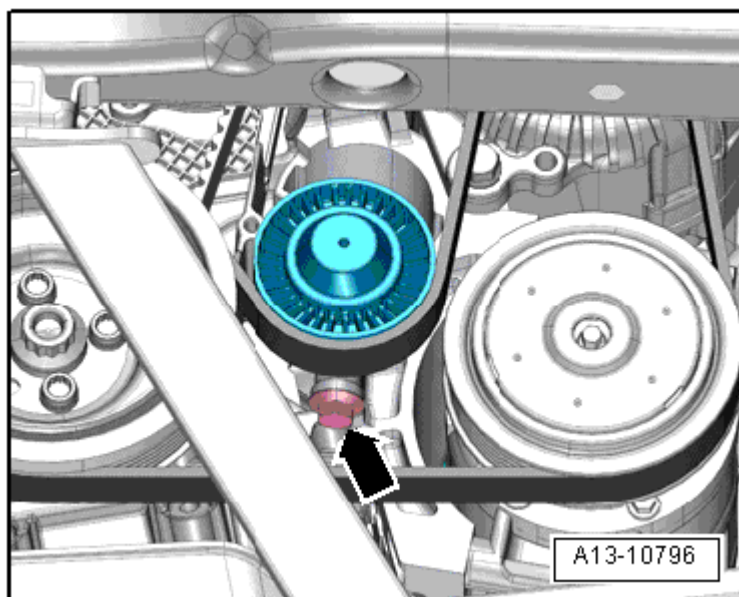

Fig. 6: Identifying Ribbed Belt Tensioning Roller Bolt Tightening Sequence and Specifications
- Tightening specification and sequence, refer to **Fig. 6**.